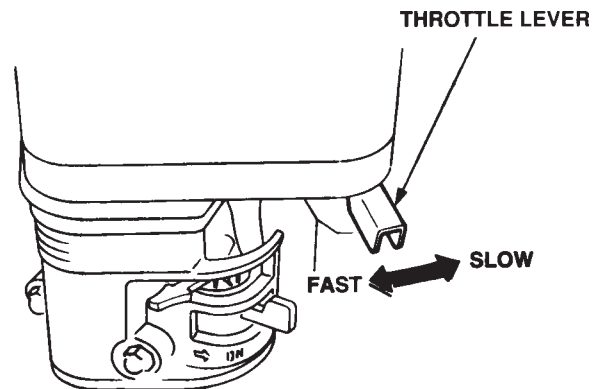

Figure 13. Throttle Lever
4. Place the **throttle lever** (Figure 13) halfway between **fast** and **slow**.
1. Place the **throttle lever** (Figure 13) in **slow** position, and listen for the engine speed to decrease.